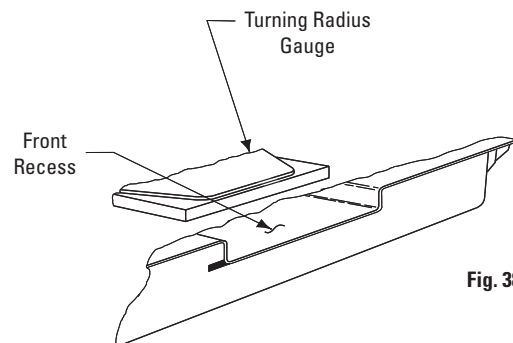

Fig. 38
- C. Place the turning radius gauges in the recesses of both runways with the pointer and lock pin to the outside of lift, Fig. 38. Position each gauge against the rear guide bars. Then position the front guide bar just against the front edge of the turning radius gauge. Repeat on other runway. (A tolerance of 1/16", end-to-end, is acceptable). Tighten the mounting bolts securely. The turning radius gauges are now square and in proper alignment with each other.